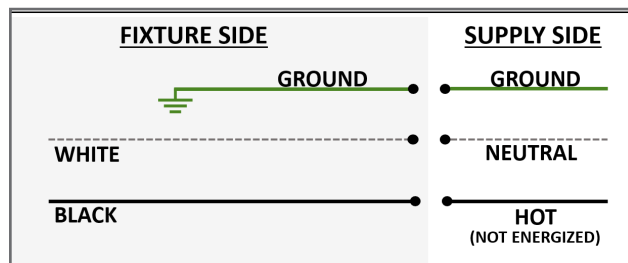

FIGURE 14
5. Route the input wires through the chosen knockout and make electrical connections according to Figure 14.